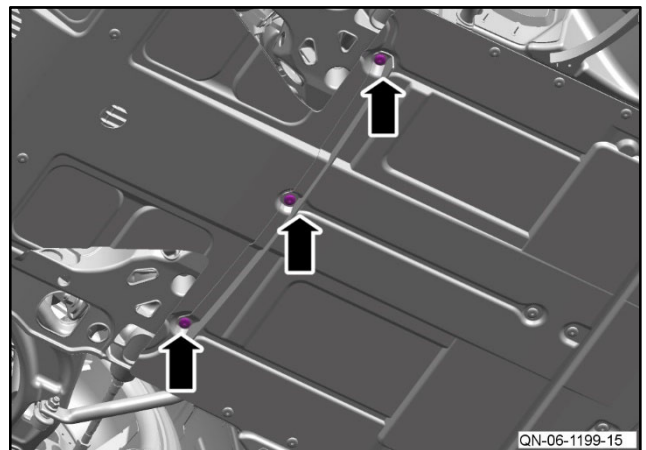

Figure 22
- 22 Remove the three screws that attach the air dam to the front undertray (refer to Figure 22).